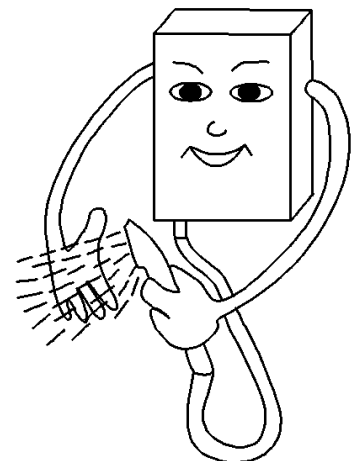

Fig.9
- (1) Turn the water flow regulating knob to control the water flow and its temperature.
- (2) Turn the gas regulating knob to control the flame of the burner thus controlling the hot water temperature.
- (3) Turn off the hot-water outlet valve and the appliance will stop working automatically.
- Test water temperature with your hand before shower, so as to avoid scalding (Fig.9).